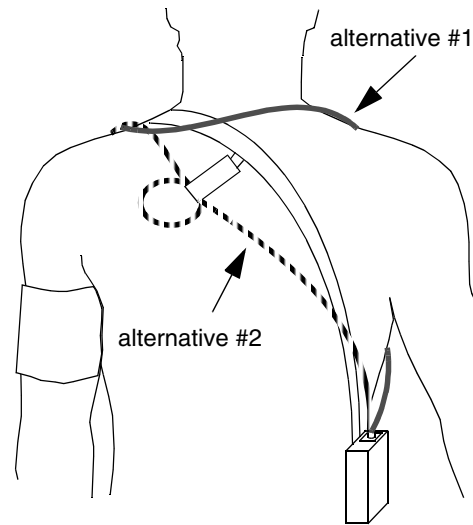

Figure 17-4: Common cuff hose positions
- Lead the hose up the arm with the cuff and place it across the back of the patient. Drape the hose so it does not cause the patient discomfort and is not pinched shut by too tight a radius. *Figure 17-4* displays the most common positions for the cuff hose.